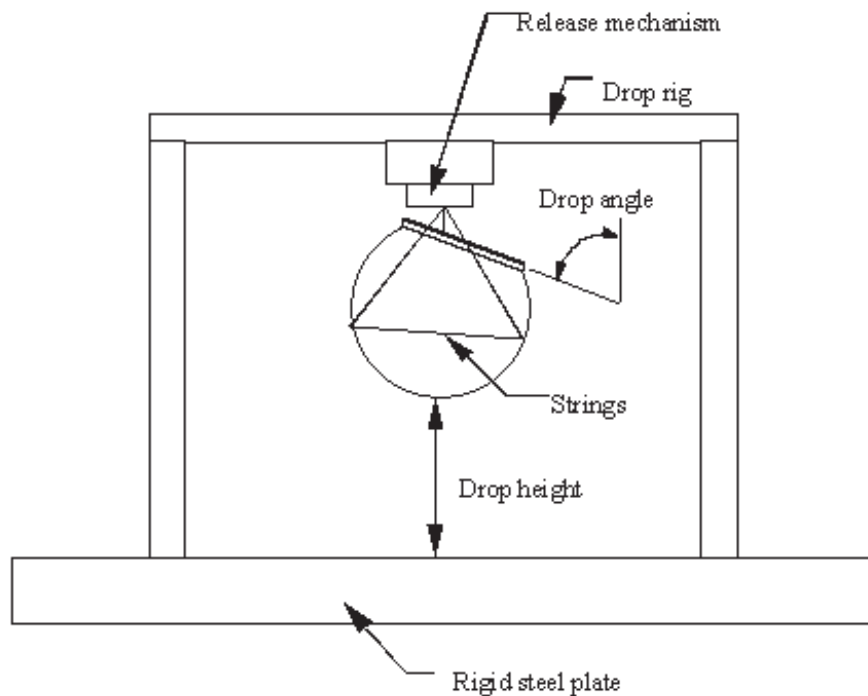

Figure 4: Certification test set-up.
3. The head form Impactor is suspended as shown in Figure 4. The drop height for the Child head form Impactor is  $376 \pm 1$  mm. The flat face of the child head form Impactor is set at  $50^\circ \pm 2^\circ$  to the vertical (or  $40^\circ$  to the horizontal).